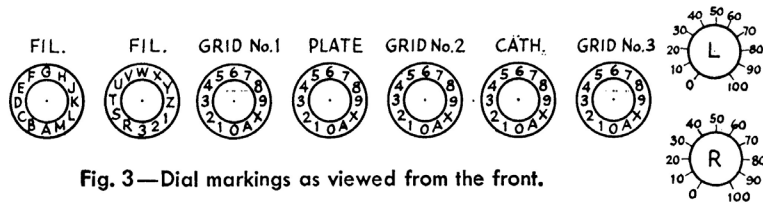

Fig. 3—Dial markings as viewed from the front.
Fig. 1—Sketches showing the location of holes and slots in the cover of the 1-177 (same view as in photo on preceding page) at A, and the chart rollers at B. Drawings are not to scale. Socket holes from left to right are for 4-, 5-, 6- and 7-pin large sockets, octal, Compactron, 9- and 7-pin miniature, and Nuvisitor sockets. Switches are mounted in the order shown in Fig. 3, with the orientation described in the text. The long hacksaw cuts are started by drilling a series of very small holes at one end filed into a slot.
8) Dial plates for the seven selector switches can be made from disks cut from thin Bristol board or cardboard, labeled as shown in Fig. 3, covered with thinned dope or shellac, and mounted under the switch-mounting nuts. New dials for L and R are constructed in the same fashion and calibrated to read zero to 100, instead of zero to 80 as originally. There are several such commercial dials on the market, if preferred.